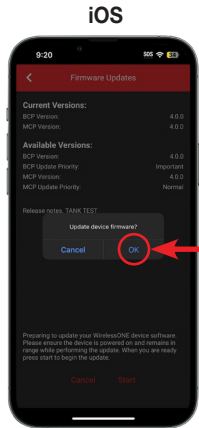
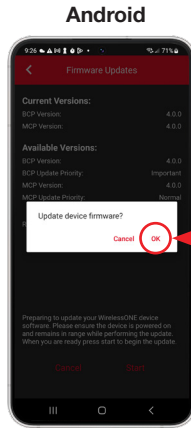

fig. E.9
fig. E.10
3. Press “OK” from the secondary confirmation pop-up and the update will begin (Fig. E.9 & Fig. E.10).